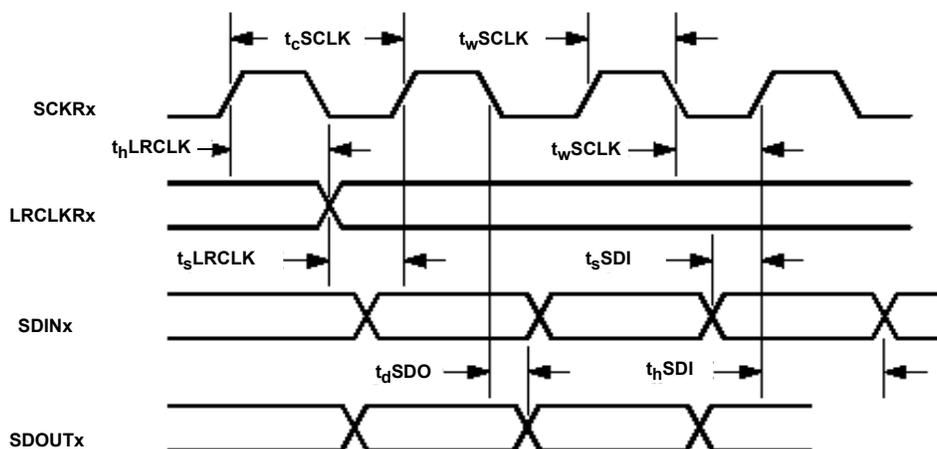

FIGURE 1. SERIAL AUDIO INTERFACE PORT TIMING
**Serial Audio Interface Port Timing** (Figure 1)  $T_A = +25^\circ\text{C}$ ,  $CVDD = PLLVDD = 1.8\text{V} \pm 5\%$ ,  $RVDD = PWMVDD = 3.3\text{V} \pm 10\%$ . All grounds at 0.0V. All voltages referenced to ground.